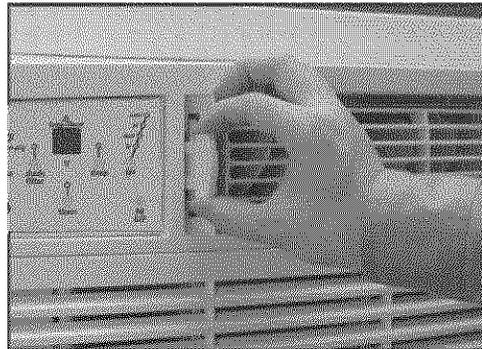

Figure 3 (VENT)
3. Exchange air from the room and draws fresh air into the room - Vent and Exhaust Open (see Fig. 3)